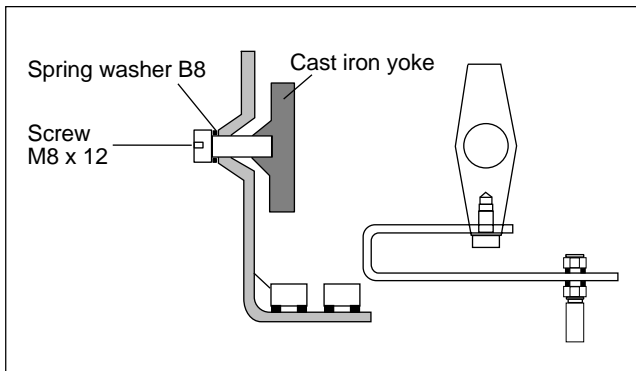
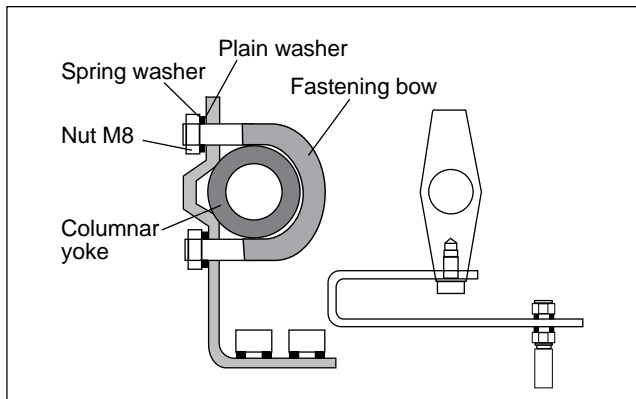

Fig. 5a Mounting the actuator with cast iron yokes
Fig. 5b Mounting the actuator with columnar yokes
Fasten the angular mounting plate (item 1) to the positioner and the cast iron yoke or columnar yoke of the actuator using the spring washers and screws (items 2 and 3). Proceed as shown in Fig. 5a and Fig. 5b.